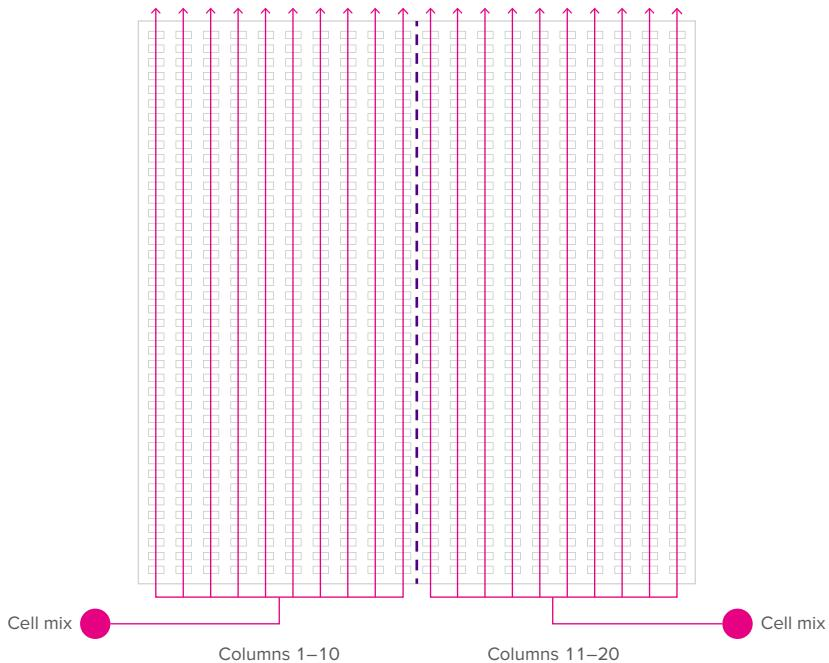

Figure 4. Cell loading pattern in the center panel of the HT IFC
- NOTE** You can load the same cell mix into both cell inlets, or a different cell mix into each cell inlet (see Figure 4 on page 24).